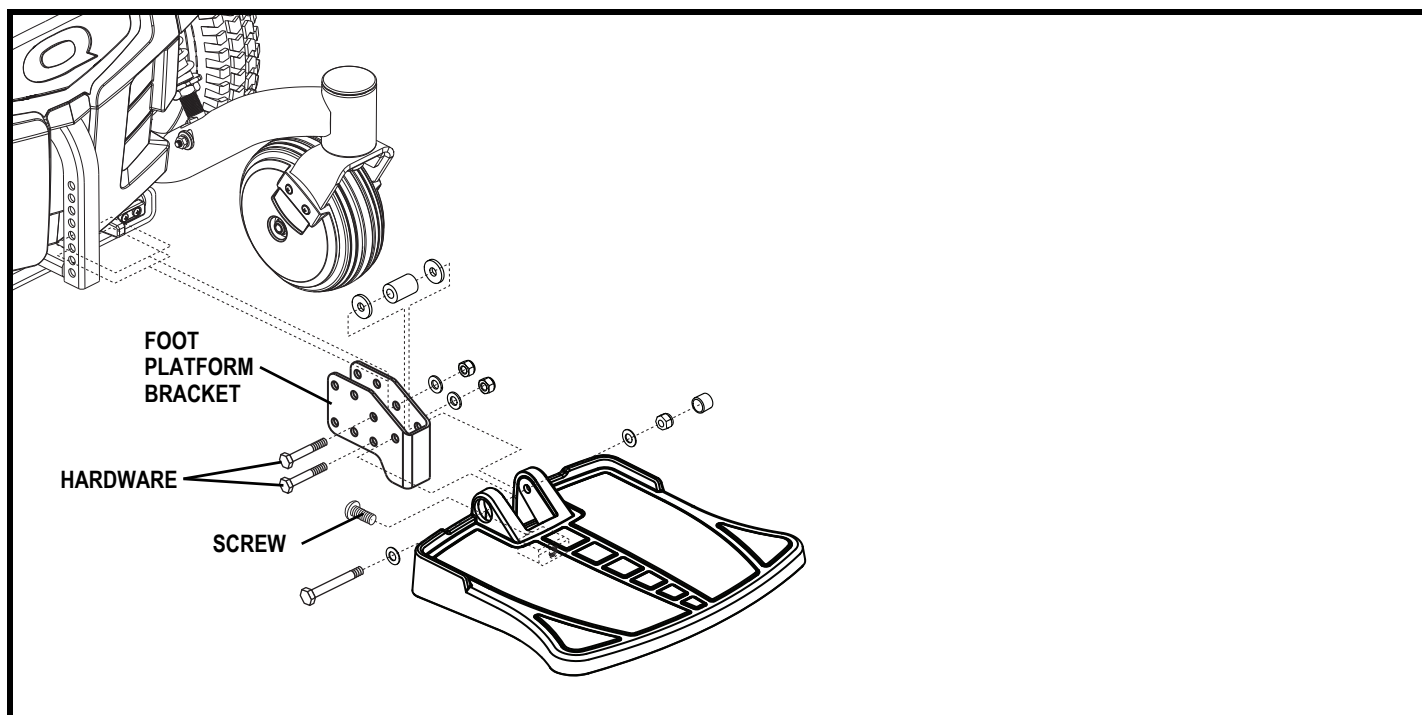

Figure 19. Foot Platform Adjustment
1. Remove the hardware from the foot platform bracket. See figure 19.
1. Flip up the foot platform and locate the screw. See figure 19.